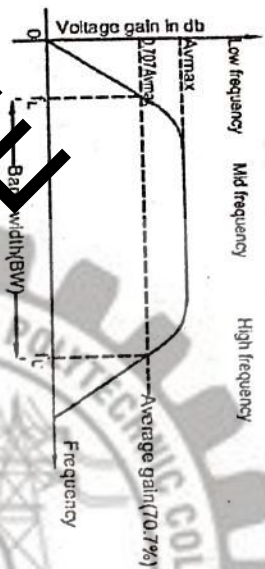

Fig: 3.8 Frequency response characteristics
The frequency response characteristics of a two stage RC coupled amplifier is shown in fig.3.8. The gain is reduced at low and high frequency ranges, and constant only at mid frequency range. From the response curve we will calculate lower cut off frequency (f_L), upper cut off frequency (f_H) and Bandwidth (BW).